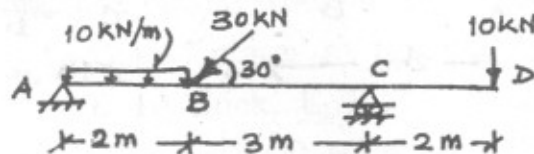

Fig. 1
3. (a) A continuous beam ABCD is simply supported at A and C and is loaded as shown in Fig. 1. Draw SFD, BMD and AFD. Show all important points. [9]